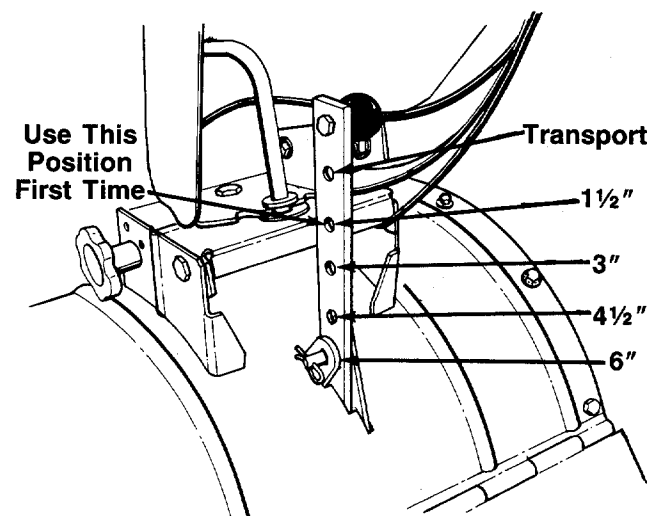
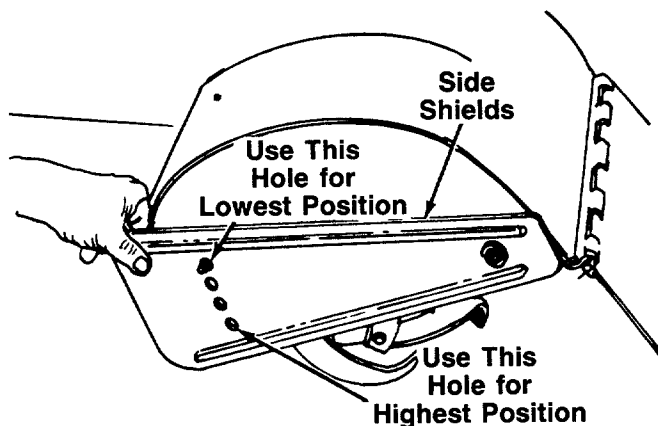

FIGURE 14.
FIGURE 15.
When operating the tiller for the first time, use the depth bar setting that gives 1½ inches of tilling depth (second hole from the top). Refer to figure 14. Use slow speed only.
Tilling depth is controlled by the depth bar which can be adjusted to five different settings. See figure 14. Adjust the side shields as shown in figure 15, as you adjust the depth bar. Be certain spark plug wire is disconnected and grounded against the engine.
1. When using the tiller for the first time, use the second adjustment hole from the top (1½" of tilling depth). See figure 14.
To adjust the depth bar, remove the clevis pin and hair-pin cotter. See figure 14. Move the depth bar to the desired setting.
To adjust the side shields, remove the hex nut and belleville washer from the front and loosen the rear nut. See figure 15. Pivot the side shield to the desired position. Replace hex nut and belleville washer. Tighten securely.